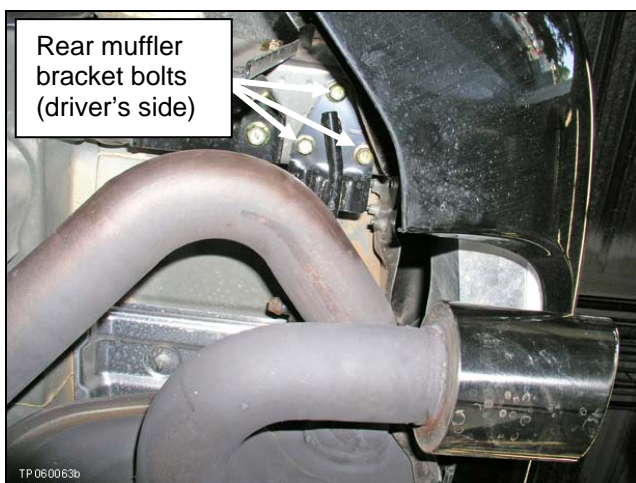

Figure 13a
16. Remove the rear muffler bracket bolts (see Figure 13a and 13b).